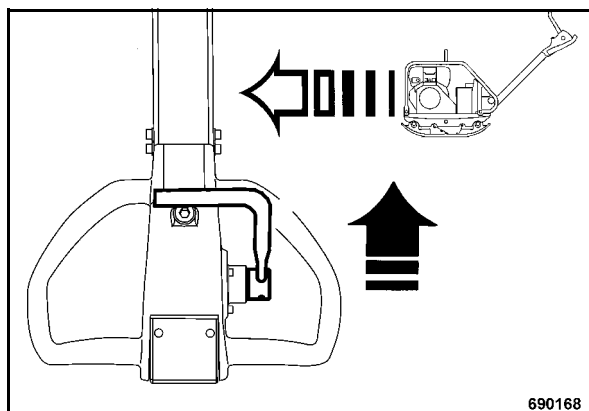

Fig. 25
- Push the travel lever (Fig. 25) forward, until the vibratory plate has reached the desired speed.